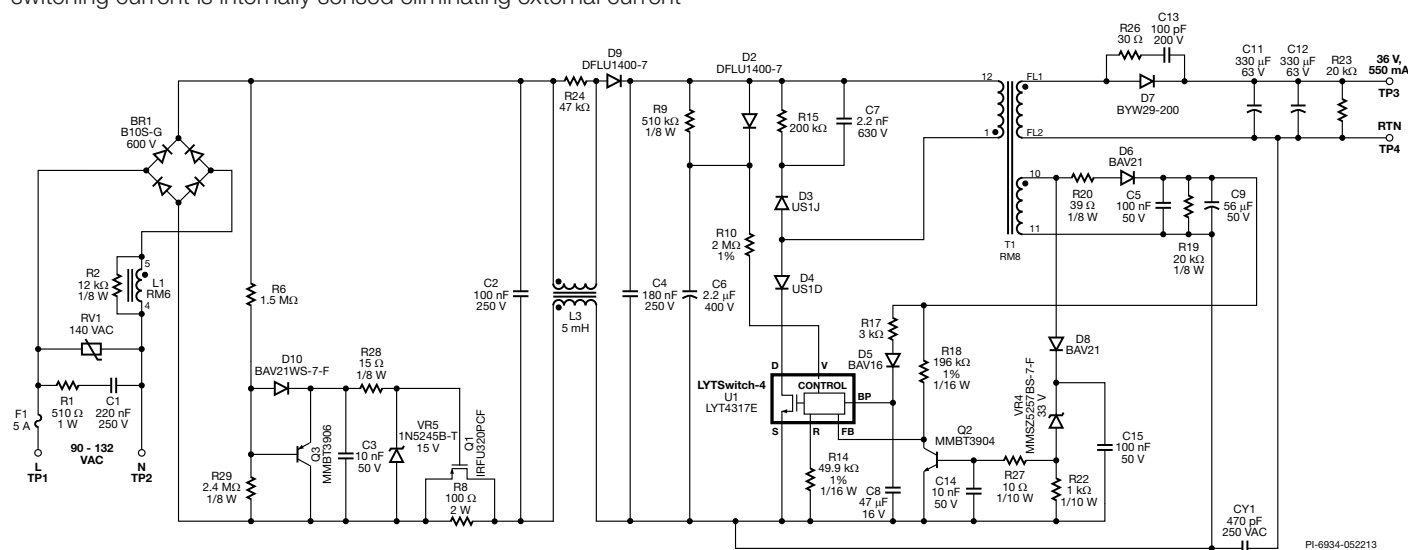

Figure 1. Typical Circuit Example (DER-350) for a 25 W Dimmable LED Driver using a LYTSwitch-4 Device.
The circuit in Figure 1 shows the basic configuration of a standard AC TRIAC dimmable LED driver using LYT4317E. The circuit uses the flyback topology and with the high level integration of LYTSwitch-4 device, far fewer design issues are left to be addressed externally, resulting in one common circuit configuration for all output specifications. For example, different output power levels may require different values for some circuit components, but the circuit configuration stays unchanged.
- Select either TRIAC dimming (YES) or non-dimming/PMW dimming (NO) configuration [B3]. For LYTSwitch-4 (LYT-4X1X) Low Line Family selecting TRIAC dimming the value of the R pin resistor (R14 in Figure 1) is 49.9 k Ω , 1% and for non-dimming 24.9 k Ω , 1%. While for the LYTSwitch-4 (LYT-4X2X) High Line Family the value of the R pin resistor is 24.9 k Ω , 1% be it for TRIAC dimming or non-dimming configuration.
- The value of the REFERENCE pin resistor (R14 in Figure 1) programs TRIAC dimming or non-dimming. The value for the feedback resistor (R_{FB1}) is given in cell [D30]. This is the resistor connected from the FEEDBACK pin to the bias supply and is used to sense the output voltage.
In Figure 1 R_V is R10, a 1% or better tolerance should be used to obtain the narrowest output current tolerance. The voltage